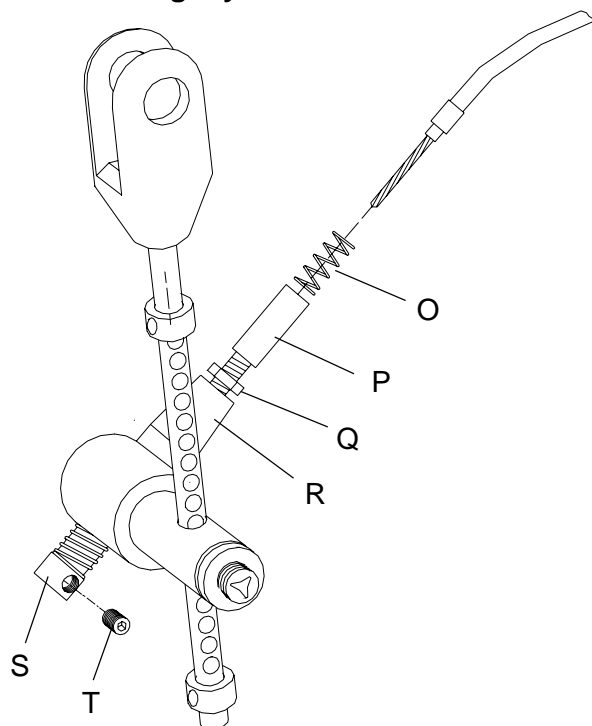

fig. 8
Seat tilting/tilt locking unit, see Figure 8.
1. Ensure that the nut (Q), Figure 8 is loose and that the adjustment casing (P) is unscrewed 1-2 mm from the fully screwed-in/tightened position.
2. Thread the wire through the spring (O), Figure 8, then through the adjusting screw (P) in the case (R) and out through the lock pin (S).